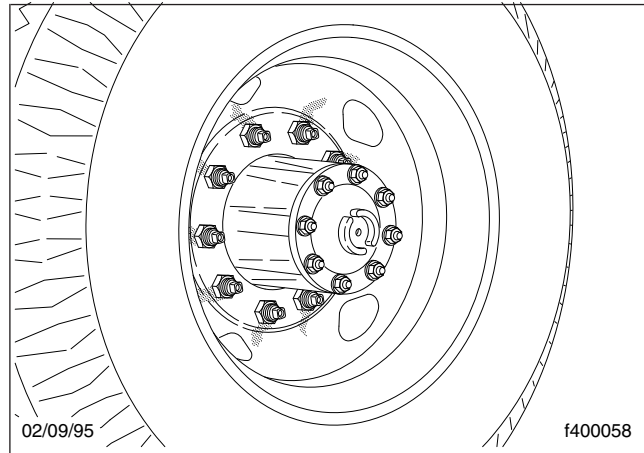
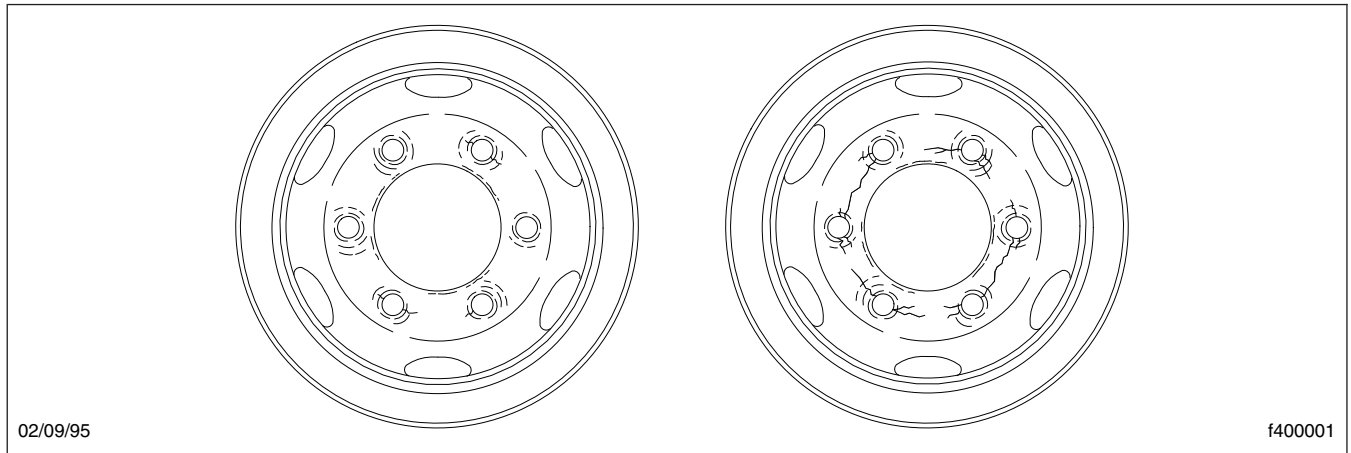

Fig. 11.9, Dirt and Rust Streaks from the Stud Holes
Fig. 11.10, Worn Stud Holes
- 19.1 Remove all dirt and foreign material from the assembly. Dirt or rust streaks from the stud holes, metal buildup around stud holes, or out-of-round or worn stud holes may be caused by loose wheel nuts. See Fig. 11.9 and Fig. 11.10.